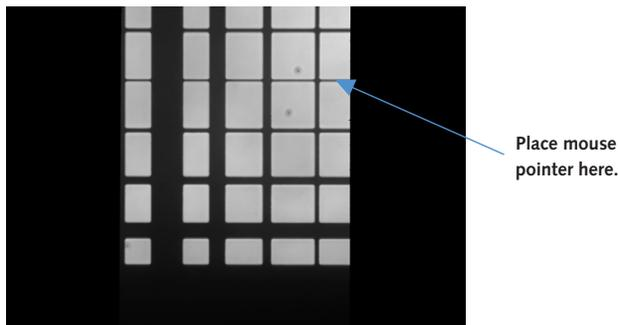

Figure 18. Image of the grid with an edge of the grid in the field of view and the cursor placed at the right edge of the image on the thinnest line.
4. Pull the DV2 filter holder halfway out of the DV2 tube (Bypass Mode) so that you once again see only one image of the grid in the center of the image field (**Figure 18**). You may need to decrease the level of the brightfield to be able to see this single image of the grid.
5. Keeping the mouse pointer on the same horizontal line in the image, move it as far to the right in the image as possible (**Figure 18**). Be very careful not to touch or move the mouse; you will be using its position as a reference point.